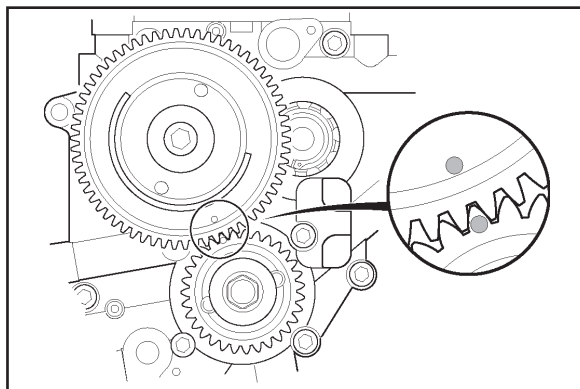

Figure 4
- K- If necessary, place transmission in high gear and turn rear wheel to rotate engine until timing mark on crankshaft gear is in position. **See Figure 4** below.
- L- Place drive gear key in rear camshaft. Position cam drive gear on rear camshaft and key with timing mark outward. Rotate drive gear and camshafts until drive gear and crankshaft gear timing marks are aligned. **See Figure 4.**